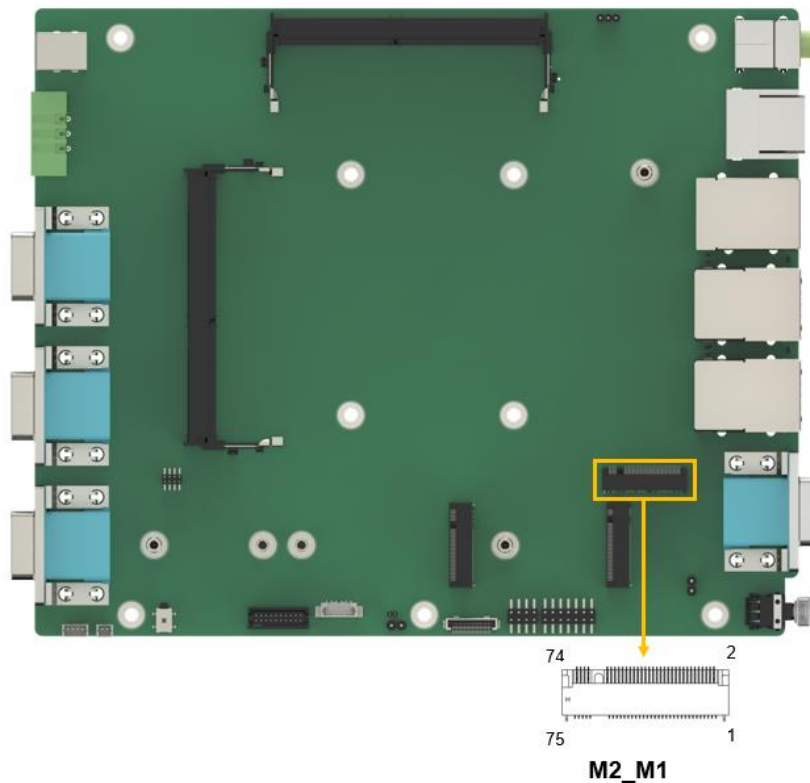

Figure 4-21: M.2 M-key Slot Location
- CN Location:** See Figure 4-21